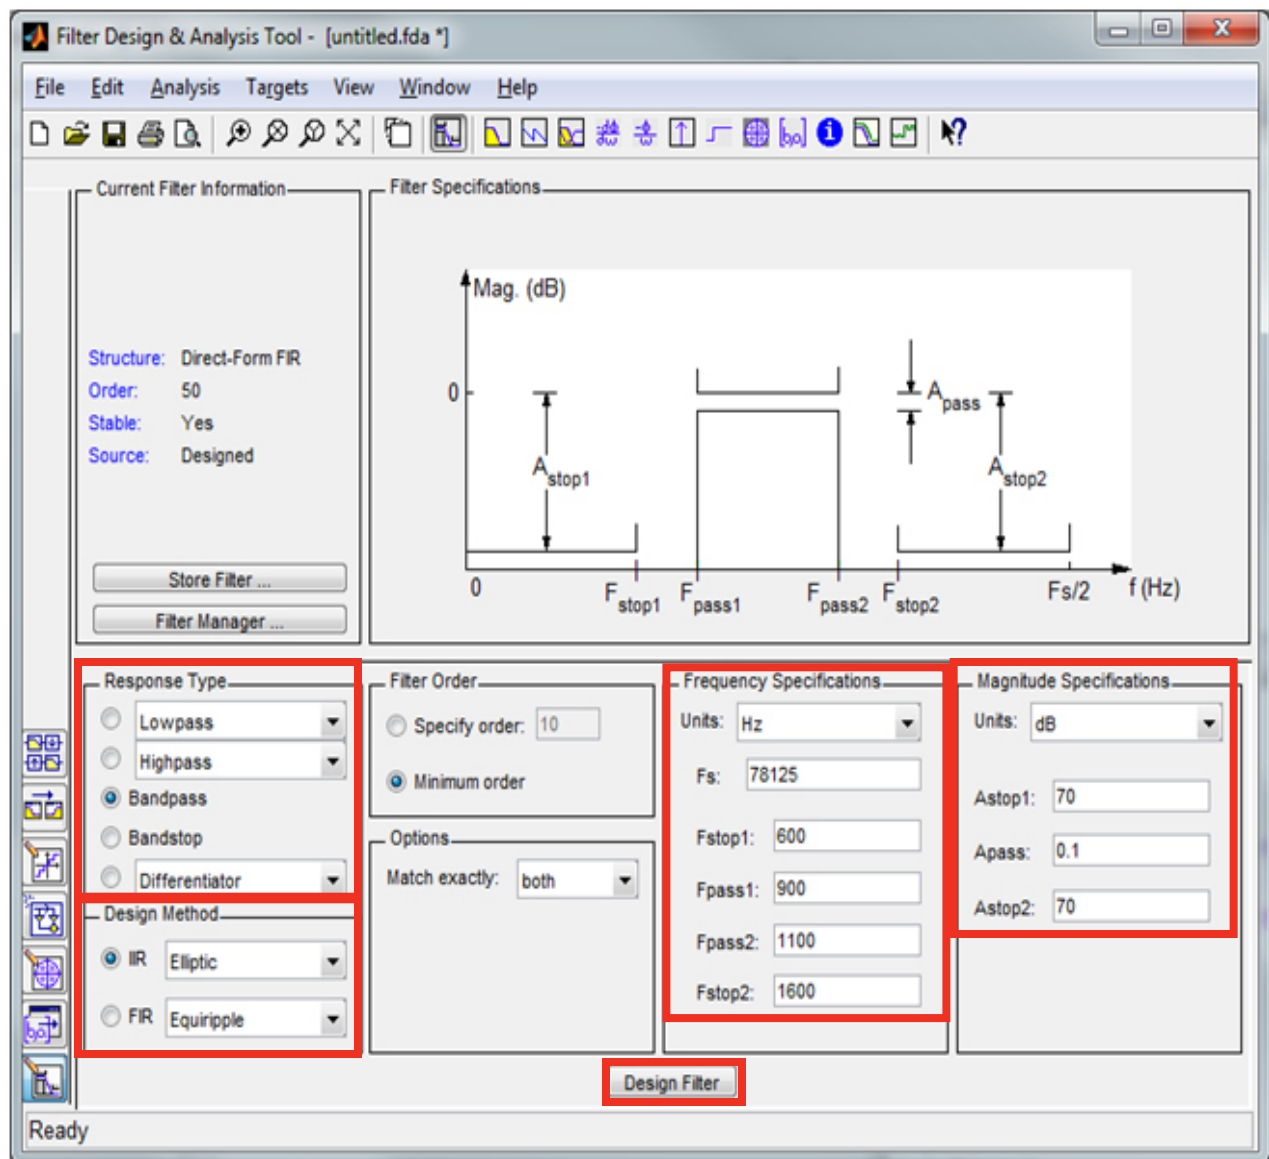

Figure 5. Selecting "Response Type", "Design Method", "Frequency Specifications", "Magnitude Specification", and Press "Design Filter" Button
4. Select the "Response Type" e.g. Lowpass, Highpass, Bandpass, and Bandstop (Figure 5)
5. Select the "Design Method" e.g. IIR or FIR (Figure 5)
6. Select the "Frequency Specifications" you require e.g. Fpass (1 and 2), Fstop (1 and 2) (Figure 5)
7. Select the "Magnitude Specifications" e.g. Wpass (1 and 2), Wstop (1 and 2) (Figure 5)
8. Press the "Design Filter" button (Figure 5)